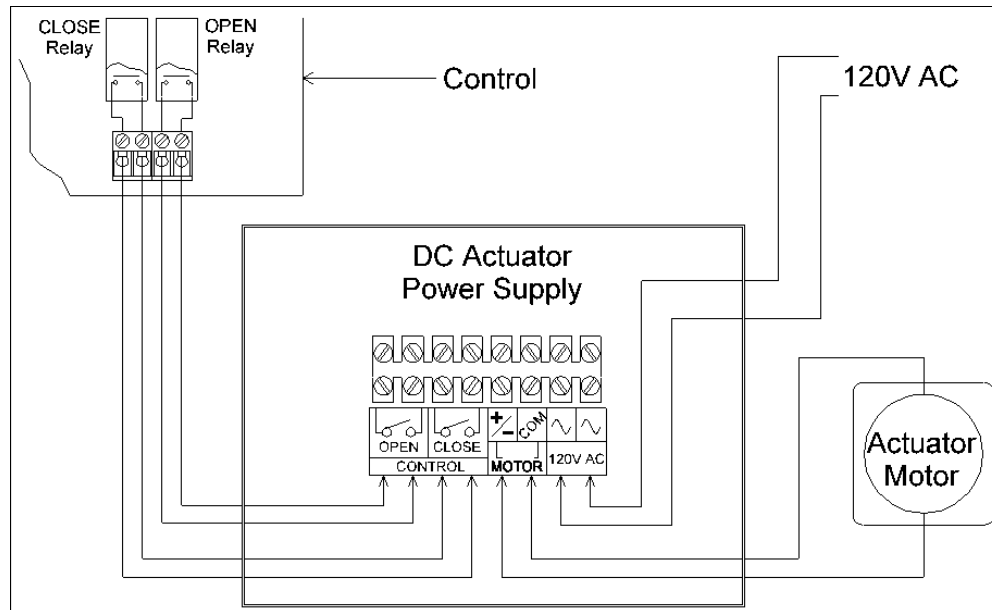

Figure 1: Wiring Diagram
2. Connect the power supply according to the diagram in **Figure 1**.